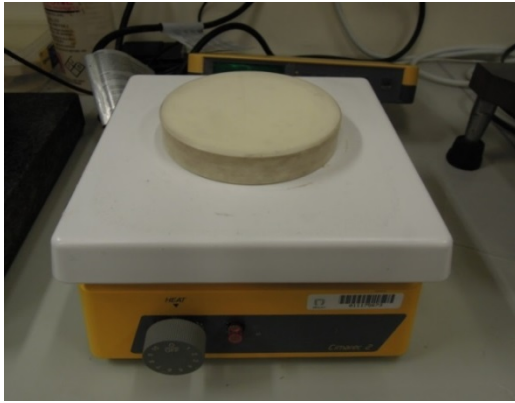

Fig. 3
- 3) Turn on the hotplate, as shown in Fig. 3, adjust the knob to position 6-7, wait for 3~5 minute.